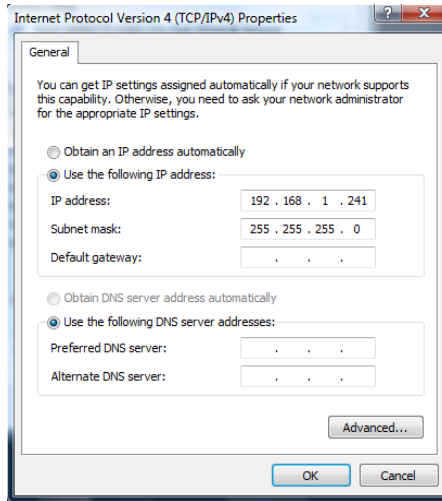

Figure 3.3 Internet Protocol Version 4 properties window
8. Leave the remaining fields blank, as shown in Figure 3.3 and click OK